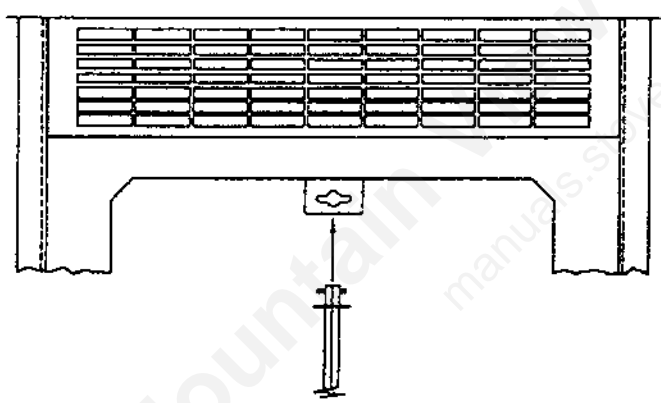

Figure 13
A. Heat Exchange Tubes — The Cadet is designed with a built-in heat exchange tube cleaner. This could be used every two or three days to remove accumulated ash on the tubes, which reduces heat transfer. Insert tool B in cleaner key (see figure 13), twist, move backwards and forwards several times. Leave tube cleaner at rear of stove.